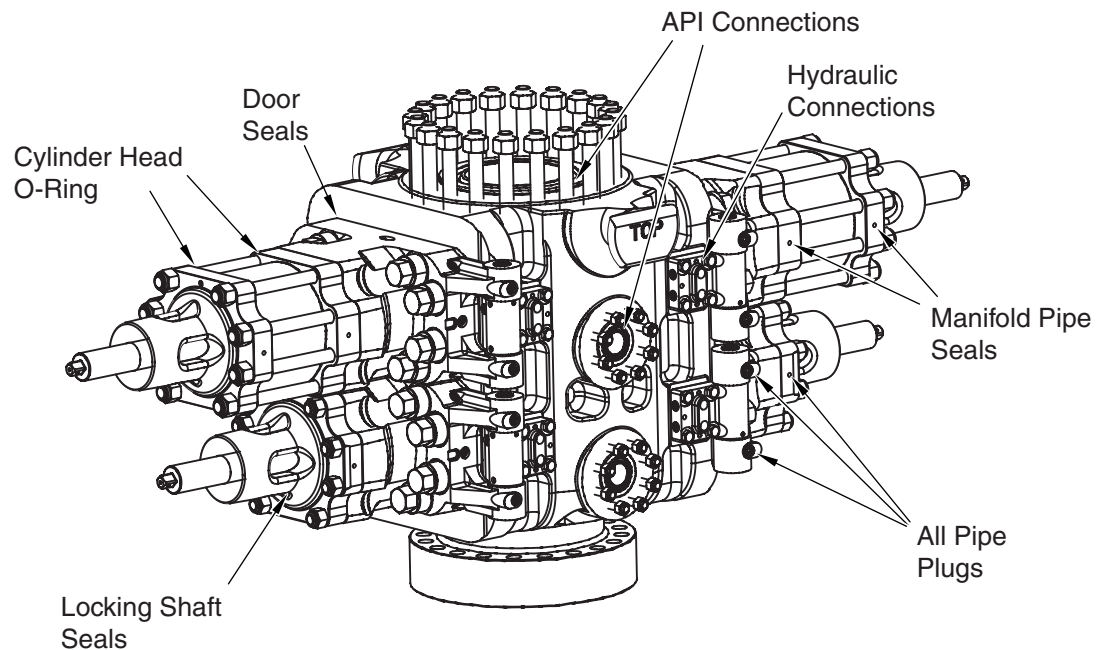

Figure 4-1. Possible Leak Areas
2. Check the locking shaft seal areas, cylinder head o-ring areas, manifold pipe seals, door seal areas, weep holes, hinges, hydraulic connections, and the socket head pipe plug for possible leakage of hydraulic fluids (see Figure 4-1).
3. Check areas for possible leakage of well fluid and/or hydraulic fluid (see Figure 4-1).
3. While running the field wellbore pressure test, look for external hydraulic leaks (see Figure 4-1).
6. Check for leaks on pressure gauge #1, the BOP exterior at the API connections, the door seals, the ram shaft weep holes, and at the rams if they are visible (see Figure 4-1 on page 4-3).